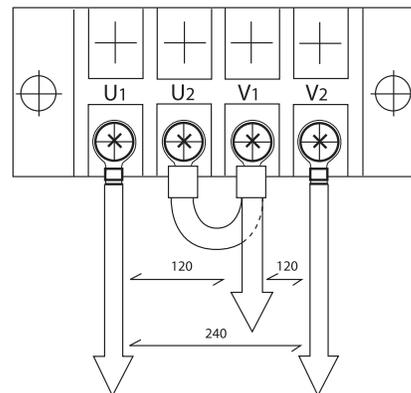

Figure 30: Output Terminal Board, 120/240 Volt Output
- b. Connect U2 and V1 on the output board (Figure 30). Connect output leads to U1 and V2 and neutral lead to V1 (or U2). 240 volt output is available from the leads connected to U1 and V2. The 120 volt load should be divided as equally as possible between two 120 volt circuits.